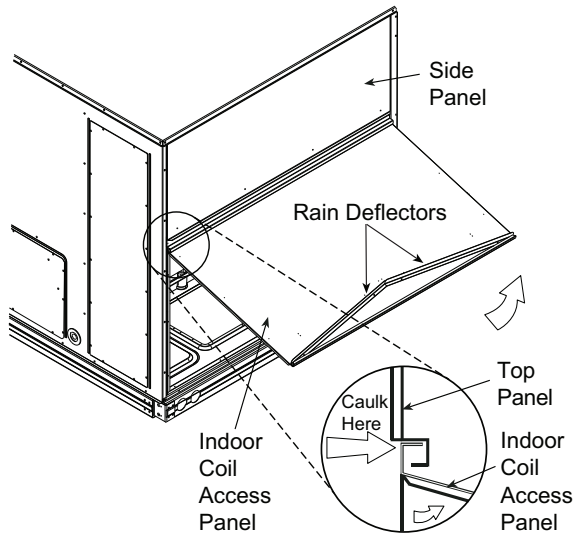

Fig. 12 — Indoor Coil Access Panel Relocation
1. The indoor coil access panel will be used as the top of the hood. If the panel is still attached to the unit, remove the screws along the sides and bottom of the panels. See Fig. 12.